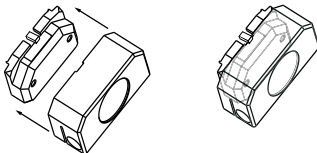

Figure 3-4: Placing the DropStop
- 3 Place the DropStop on the scan head (see *Figure 3-4: Placing the DropStop*).